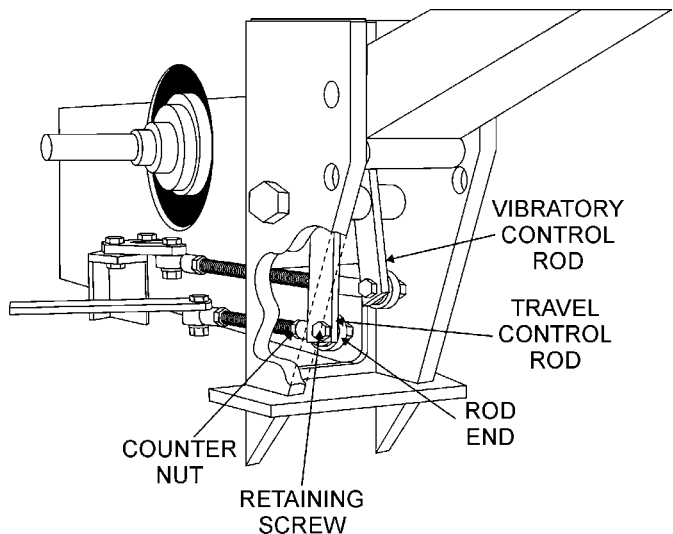

Figure 40. Travel Control Rod
- Remove retaining screw as shown in Figure 40, then rotate the rod end to acquire desired length.